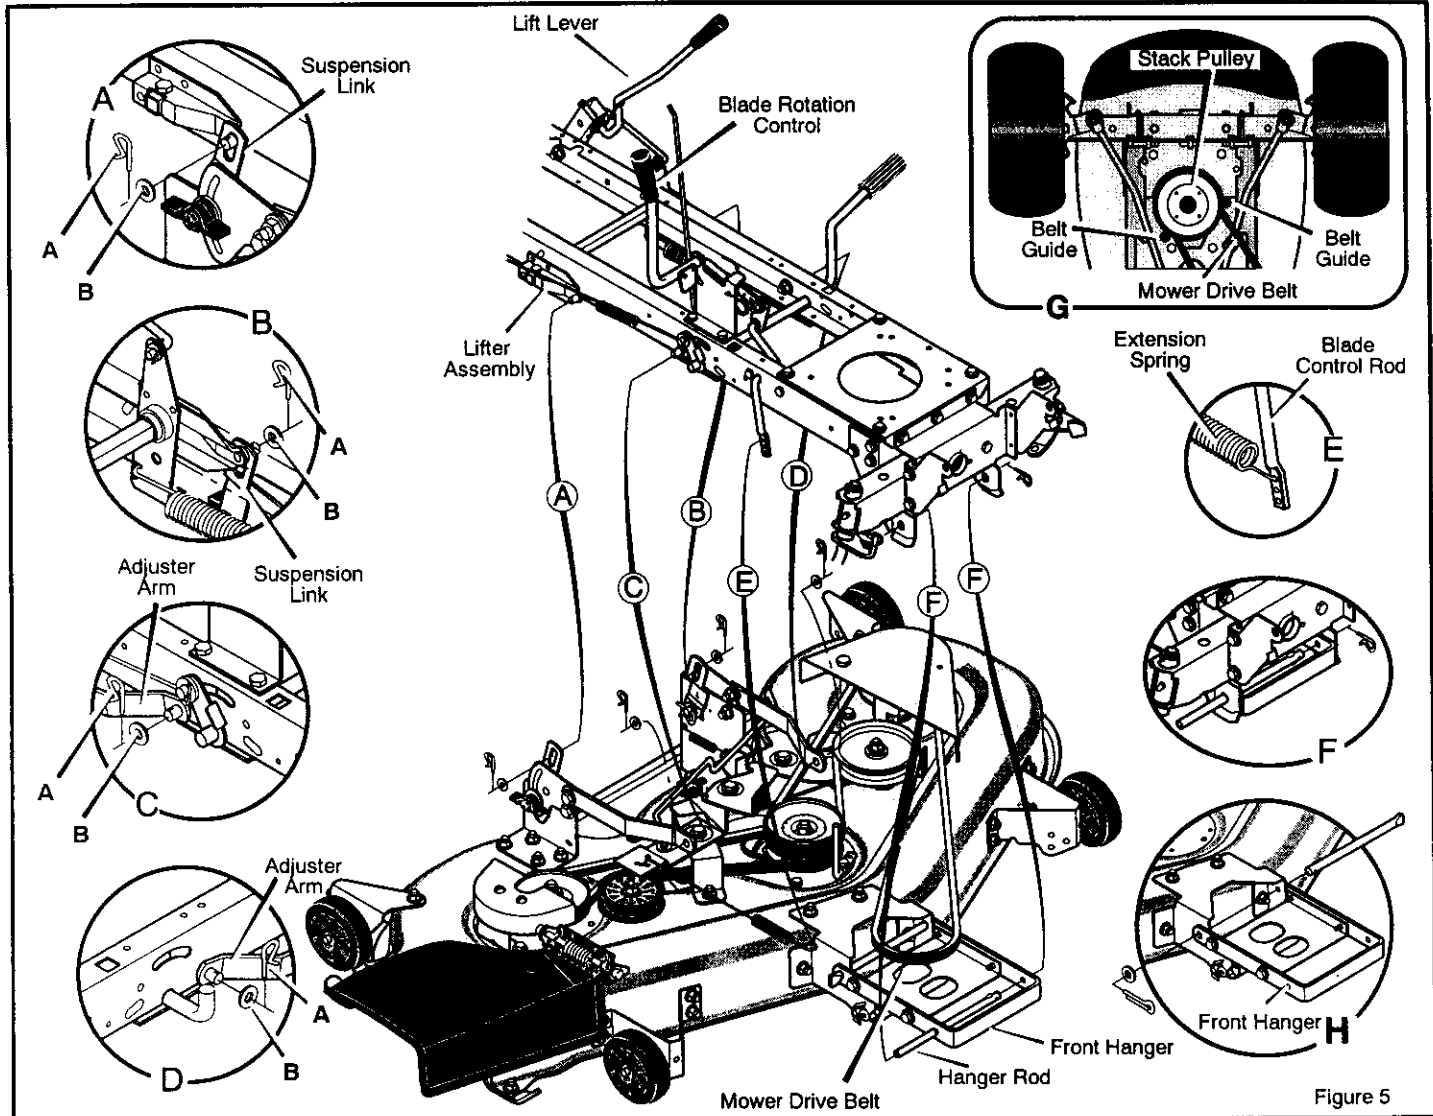

Figure 5
1. Move the **blade rotation control** to the **DISENGAGE** position (Figure 5).
5. Put the **mower drive belt** around the **stack pulley**. See illustration "G" Figure 5. Make sure the "V" side of the **mower drive belt** is against the **stack pulley**. Also, make sure the **mower drive belt** is not twisted.
8. Attach the **suspension links** to the **lifter assembly**. Fasten with the washers (B) and hair pins (A). See illustrations "A" and "B".
9. Attach the right and the left **adjuster arms** to the suspension brackets. Fasten with the washers (B) and hair pins (A). See illustrations "C" and "D".